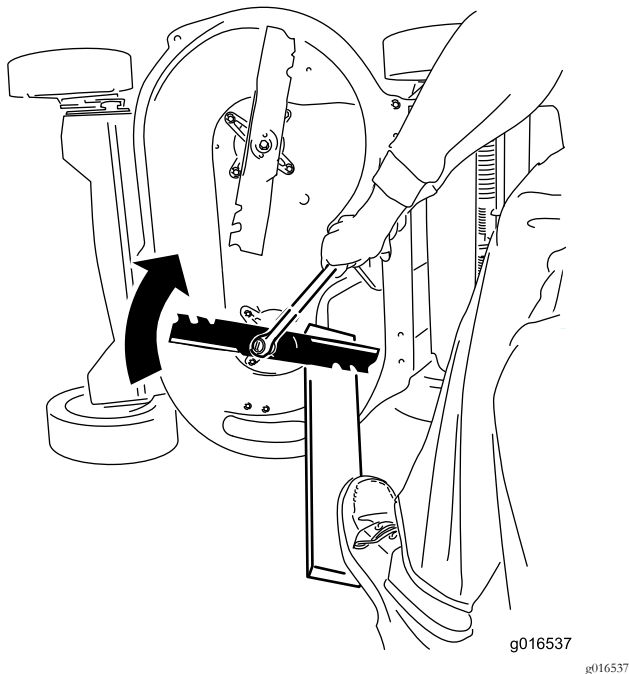

Figure 45
2. Steady each blade with a board and turn the blade bolt clockwise with a torque wrench as shown in Figure 45; torque the blade bolt to 82 N·m (60 ft-lb).